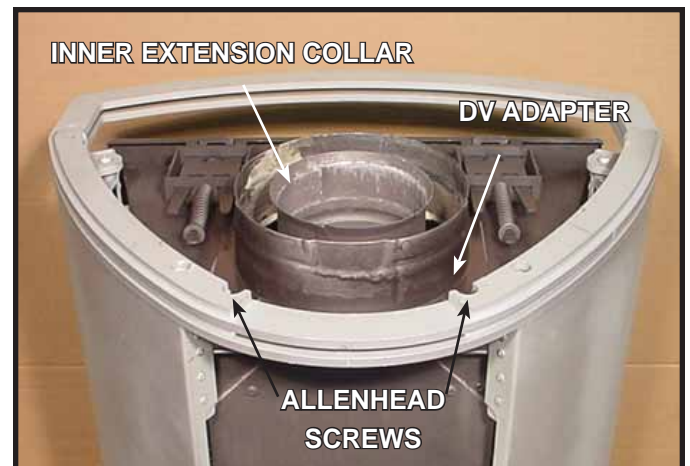

Figure 7.8
3. Remove and retain the Allen head screws that hold the solid back panel in place (Figure 7.8). Remove and discard the solid back panel.
4. Remove the inner extension collar (Shown in Figure 7.8) and set aside.
5. Remove the four screws from the DV adapter collar (Figure 7.8). Set aside DV adapter collar and screws.